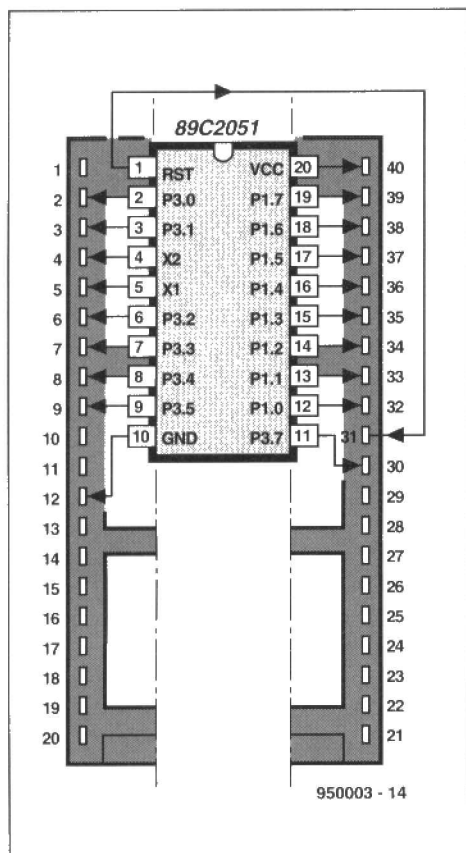

Fig. 6. To be able to program 89C2051 devices, you need this adaptor socket.
- The 89C2051 can only be programmed if an adaptor socket is used (see Fig. 6).